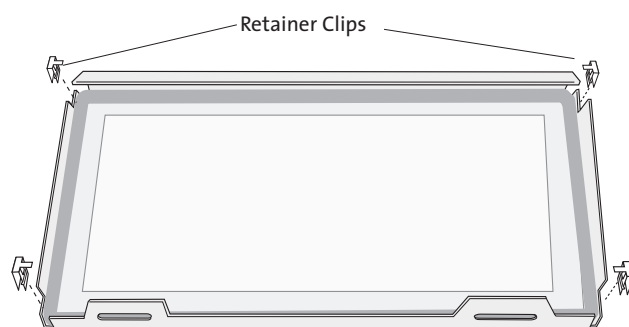

Figure 35. Glass Retainer Clip locations.
3. The glass panel is held in place by four retainer clips. Use a screwdriver to carefully pry these up off the edge of the glass retaining walls. See fig. 35.